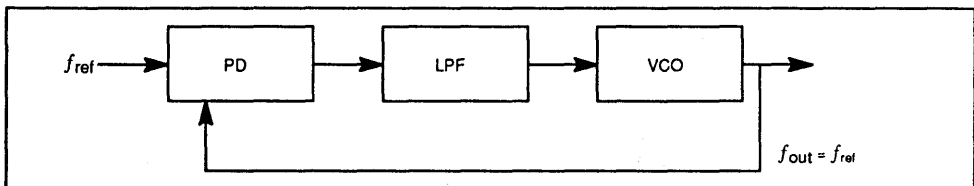

Figure 3. A Basic PLL Configuration
A PLL is a control loop consisting of a phase detector (PD), low pass filter (LPF), voltage controlled oscillator (VCO), program counter(s), and, as necessary, single- or dual-modulus prescalers. (See Figure 3.)